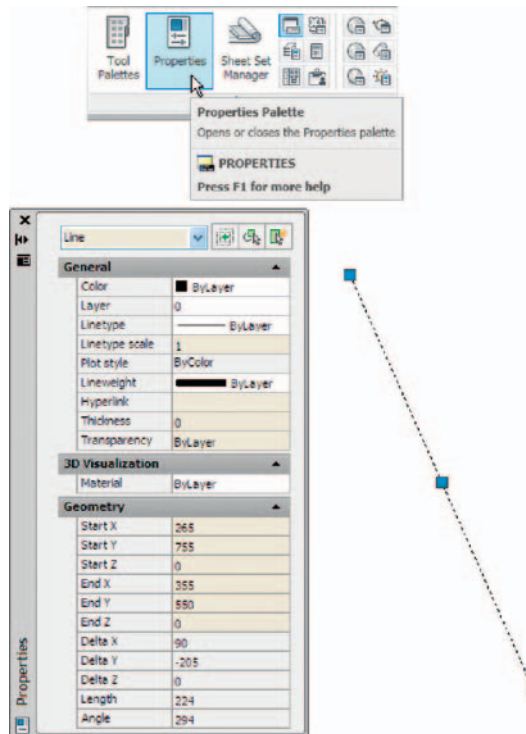

Fig. 1.12 The Properties palette
**Properties** palette: Fig. 1.12 shows the **Properties** palette, in which the general features of a selected line are shown. The line can be changed by *entering* new figures in parts of the palette.